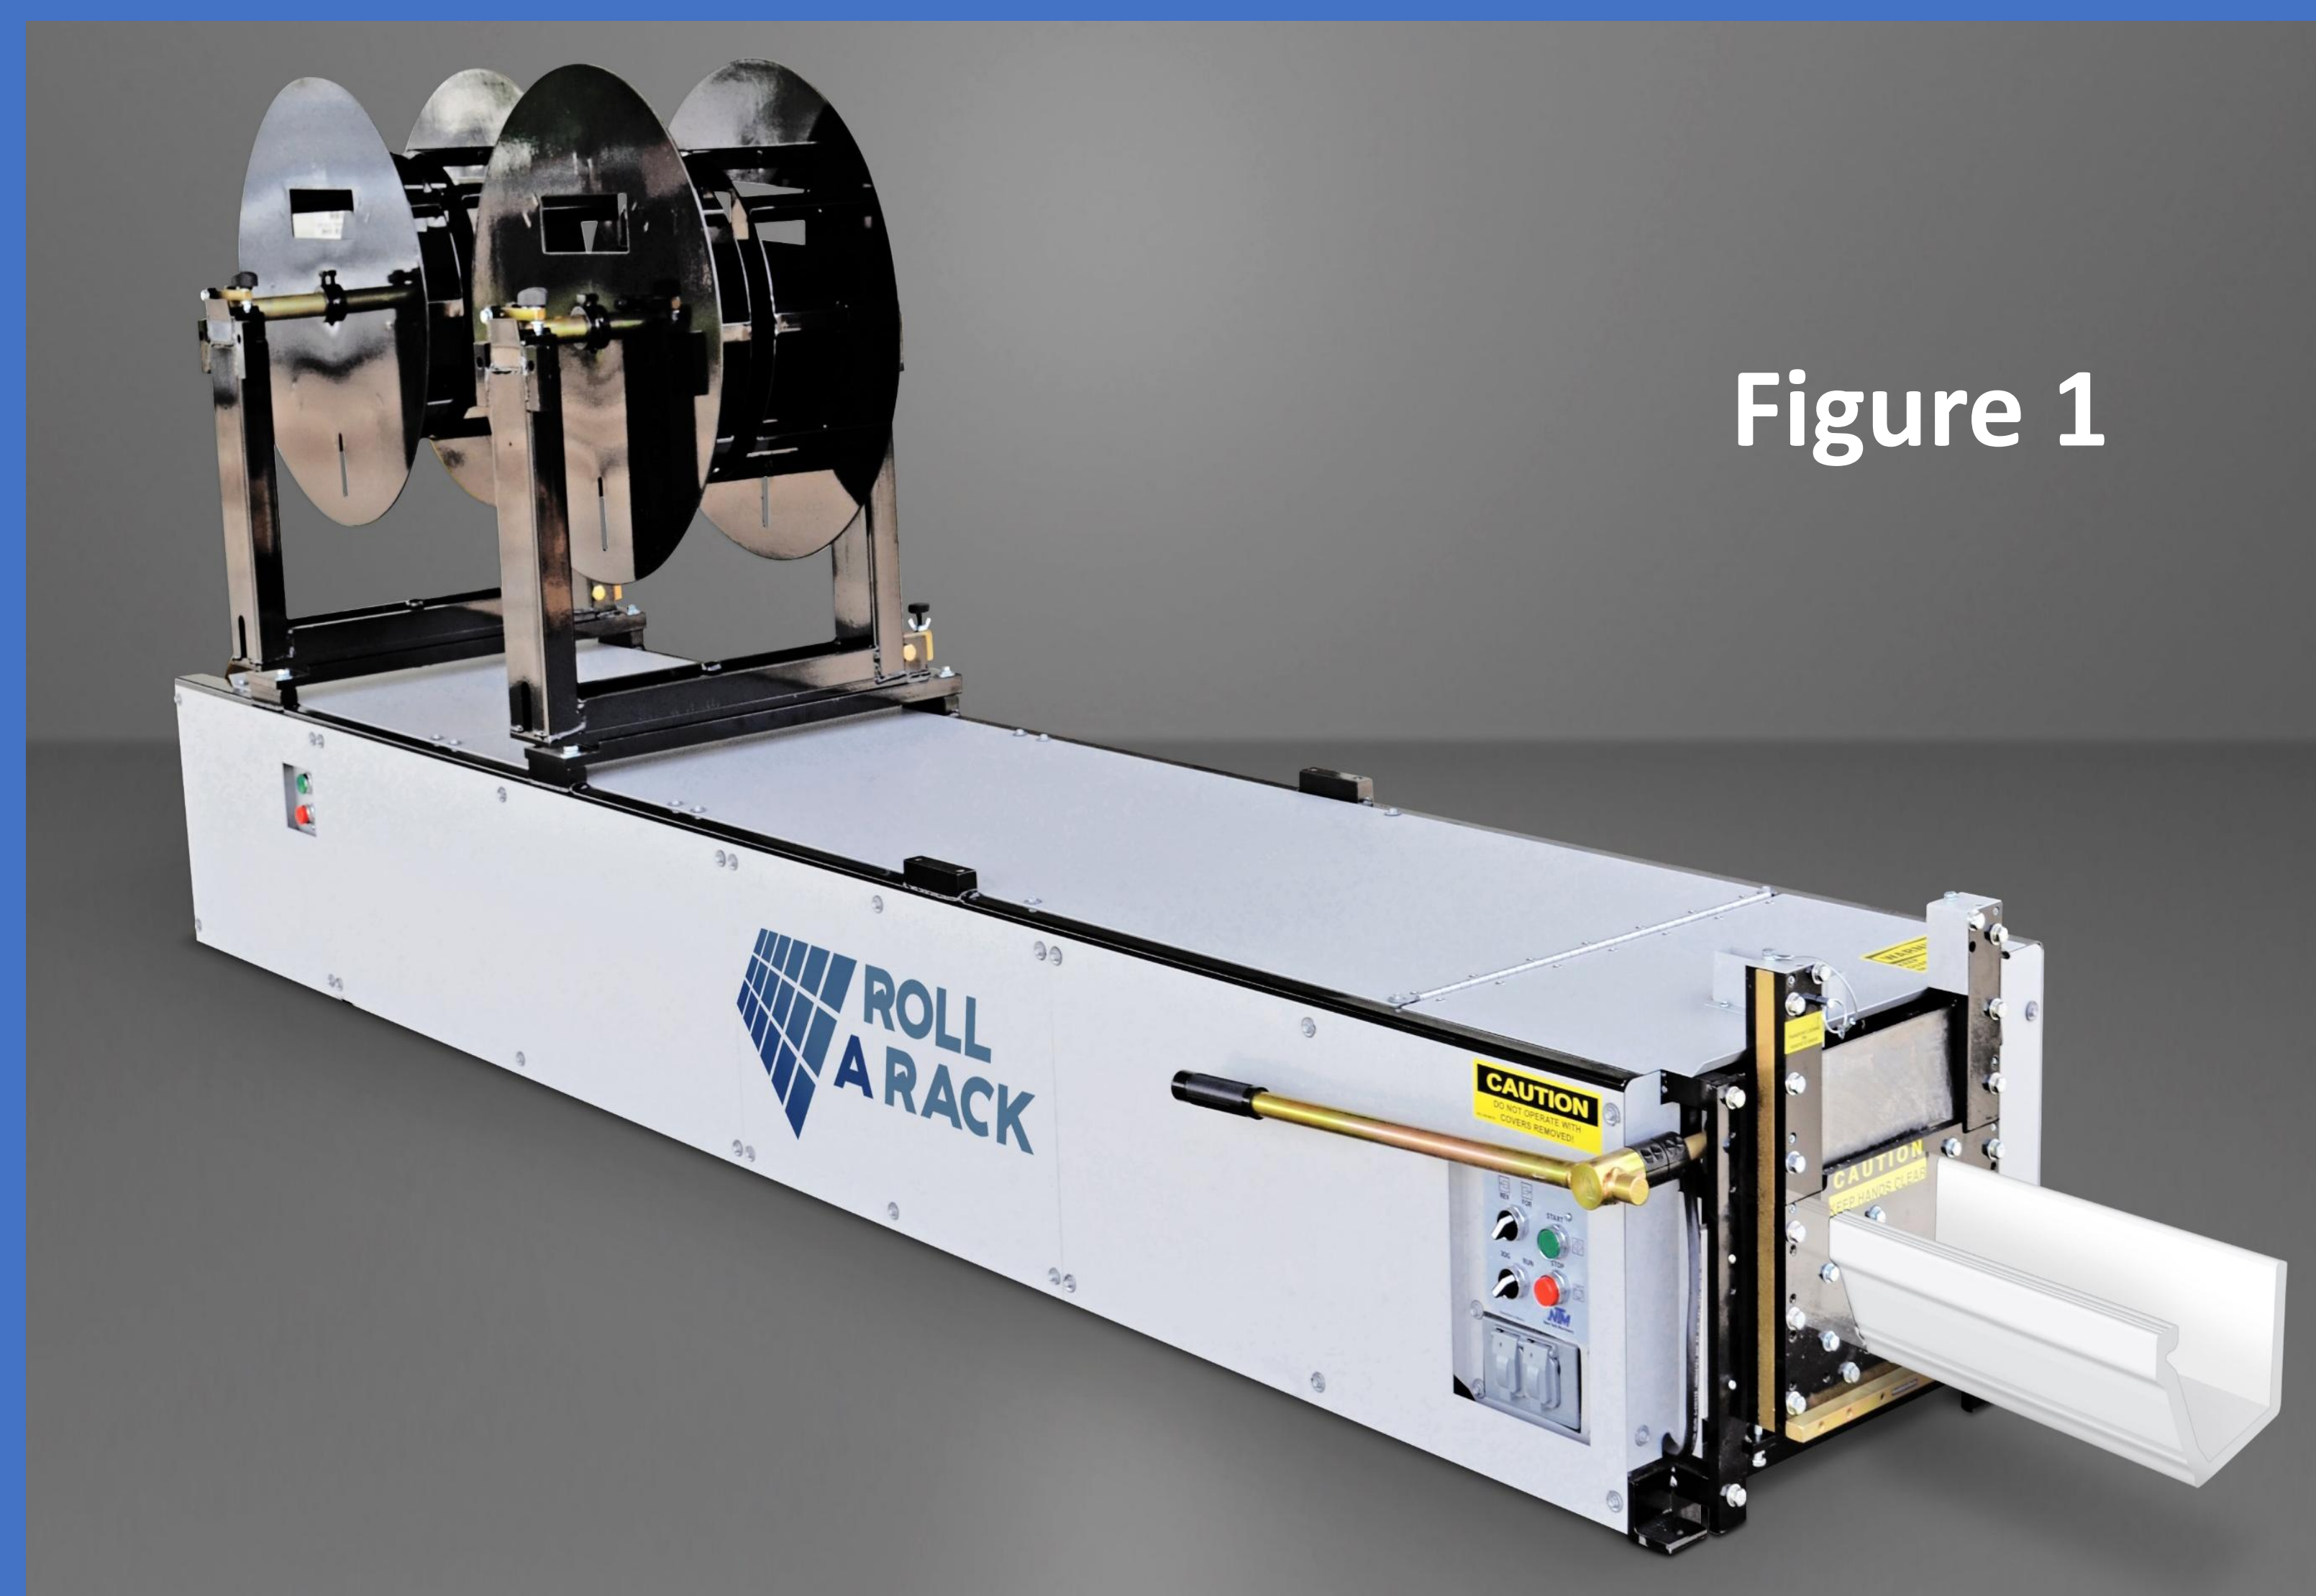

Figure 1
- A portable roll-forming machine “forms” the gutter from a coil of flat metal stock to custom lengths needed to fit the house dimensions. Roll-A-Rack uses the same technology to generate solar racking (Figure 1).